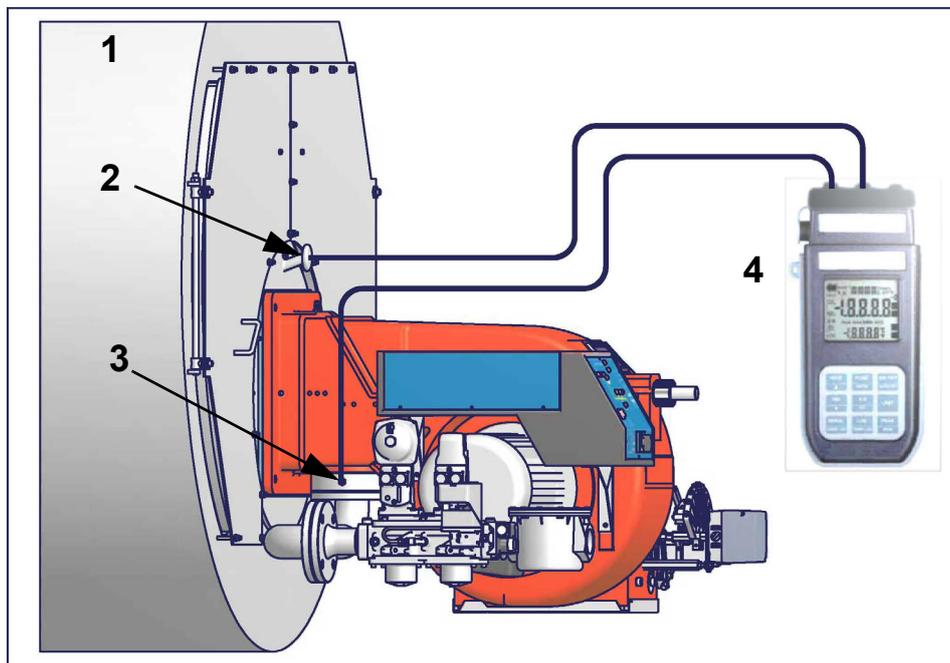

Fig. 2
The curves referred to the gas pressure in the combustion head, depending on the gas flow rate, are referred to the burner properly adjusted (percentage of residual O_2 in the flues as shown in the “Recommended combustion values” table and CO in the standard limits). During this stage, the combustion head, the gas butterfly valve and the actuator are at the maximum opening. Refer to Fig. 2, showing the correct way to measure the gas pressure, considering the values of pressure in combustion chamber, surveyed by means of the pressure gauge or taken from the boiler’s Technical specifications.
- Cast-iron boilers, three pass flue boilers (with the first pass in the rear part): the blast tube must protrude no more than **Dist** = 100 mm into the combustion chamber. (Fig. 2)